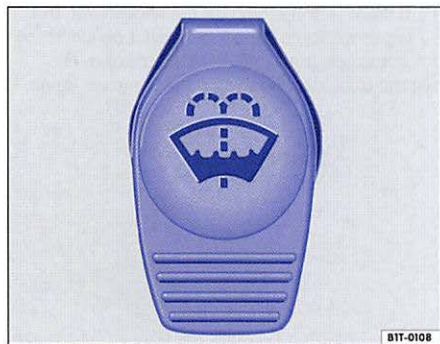

Fig. 79 In the engine compartment: Cap of the windshield washer fluid reservoir.
- The windshield washer fluid reservoir can be identified by the symbol on its cap ⇒ fig. 79.
- Refill with an appropriate windshield washer fluid that is recommended by Volkswagen ⇒ ①. Follow the directions on the container.